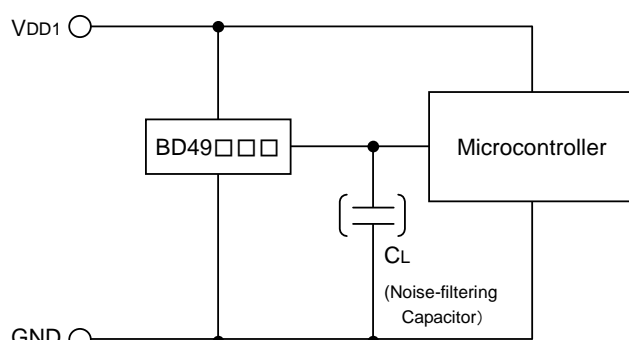

Fig.16 CMOS Output Type
Use CMOS output type (BD49□□G/FVE) or open drain output type (BD48□□G/FVE) attached a load resistance (RL) between the output and VDD1. (As shown Fig.16)